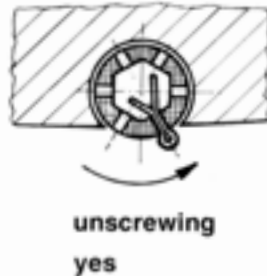

Fig. 5
- I) To make sure that the screws will not loosen insert a 1/16" stainless steel cotter pin into the head of each screw. Put them in so that if the screw were to loosen it would hit the cotter pin as shown in figure 5 of the instruction manual. Cut the cotter pins to a length of 1/4" and put them in. A light tap with a hammer on the head of the pin will spread the ends open, if not use a screw driver to spread them apart.